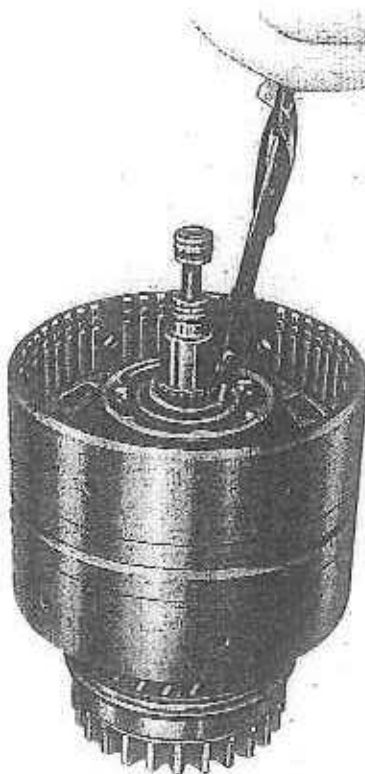

FIG. 27
15. (Fig. 27) Fit the forward clutch drum over the output shaft to rest on the reverse clutch drum and secure with circlip.